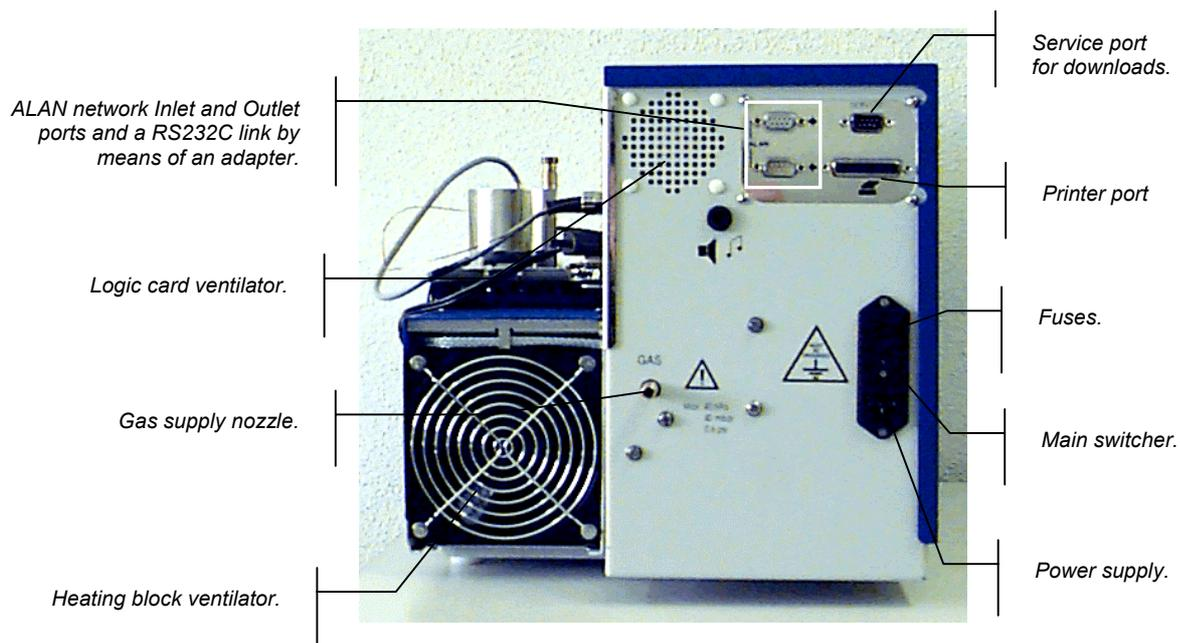
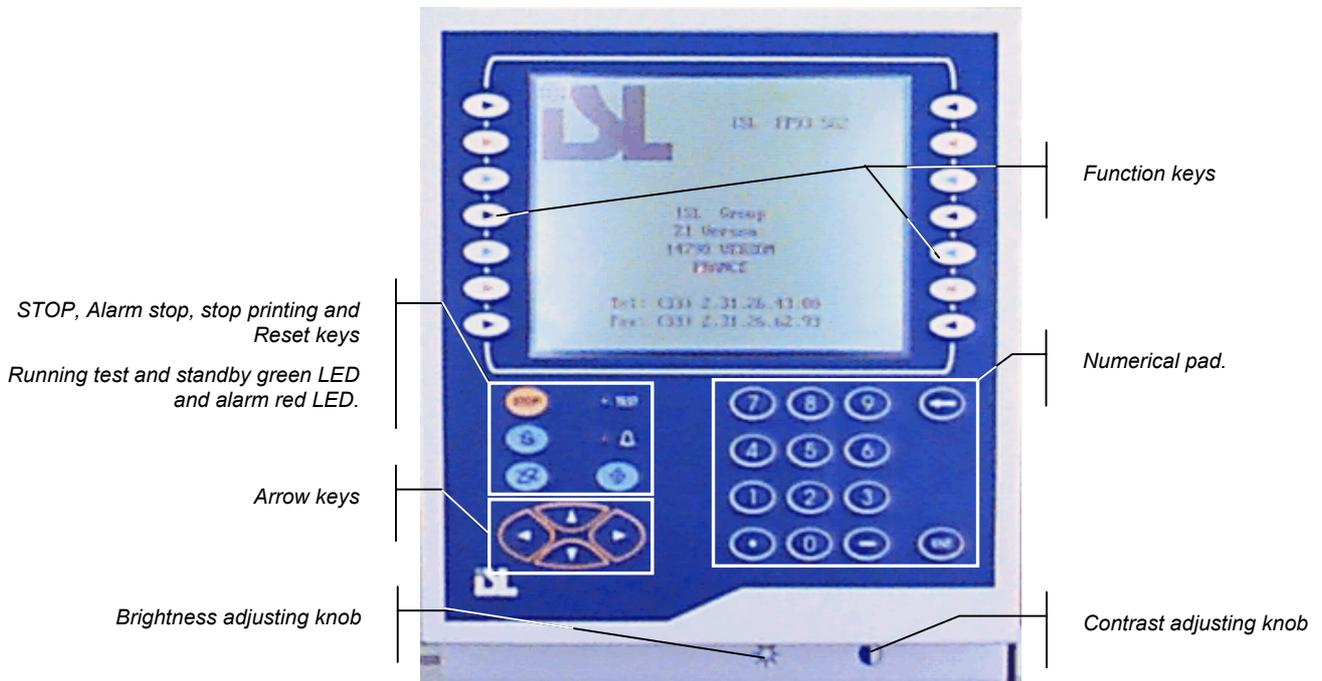

Figure 1-6
Figure 1-7
- Connect the gas supply to the adapter hose nipple at the rear of the Analyzer. (See Figure 1-6 page I-27).
Connect the printer to the parallel printer connector (See Figure 1-6 page I-27) at the rear of the Analyzer before switching on the Analyzer or the printer. Once the Analyzer and the printer have been switched on, carry out a link check as described in the chapter
- Switch on the main ON/OFF switch at the rear of the Control Unit (see Figure 1-6 page I-27). The screen lights up. If not, first check backlight and contrast settings (see Figure 1-7 page I-31).
The keypad has a built-in LCD graphic screen. In that way, the displayed functions can be directly selected using the function keys on either side of the screen . (See Figure 1-7 page I-31 and Screen 1-4 page I-33).